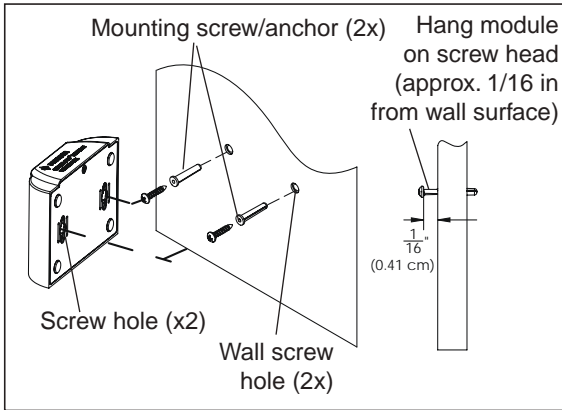
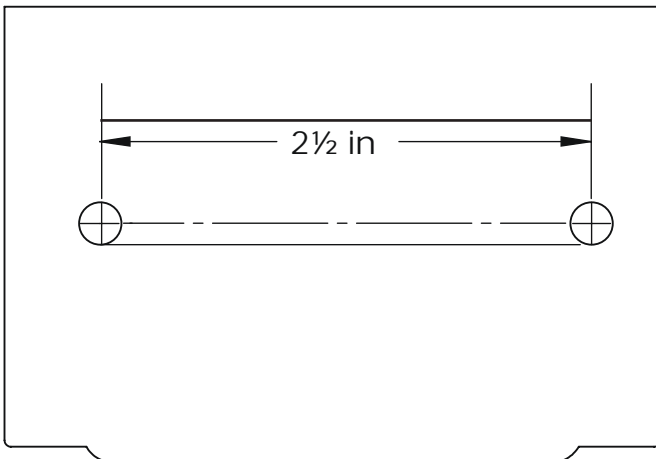

Figure 2: Wall Mount the Indoor Wireless Transceiver
Figure 3: Wall Mount Template for HPW Link Indoor Transceiver
Wall Mount the HPW Indoor Transceiver (Figure 2 and Figure 3 on page 7). Mount the HPW Indoor Transceiver on an indoor wall as follows:
2. Drill two holes (0.223 in) 2-1/2 inches apart as shown on the template (see Figure 3 on next page).
4. Insert the screws into the wall plug. Don't insert the screws all the way into the wall, leave about 1/16 in for the wireless transceiver to hang on the head of the screws (see Figure 2 on next page).